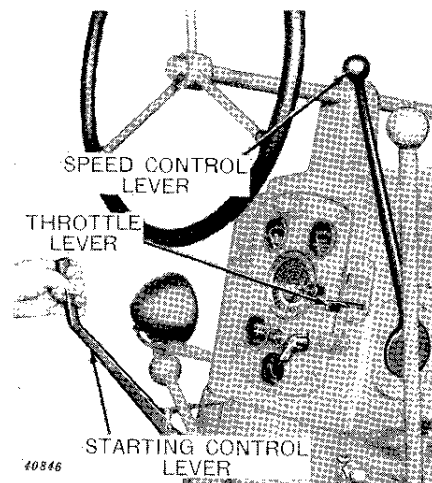

Figure 10-10-3—Engaging the Cranking Engine Clutch
- (1) Allow cranking engine to run a short while before engaging it with the diesel engine. The length of time will vary with temperature conditions, being normally from 1 to 3 minutes.
- (2) Place cranking engine throttle lever in "run" position (to the left).
- (3) **Slowly**, pull the starting control lever all the way to the rear (Figure 10-10-3).